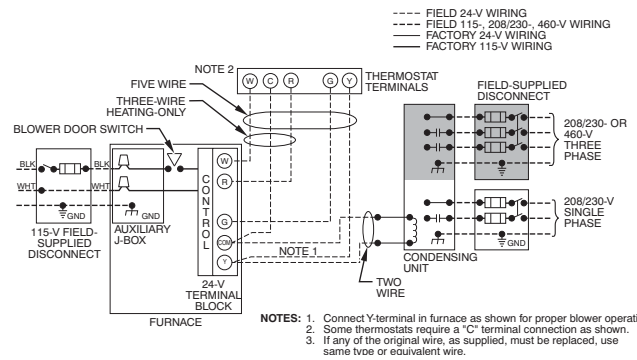

Fig. 33 – Typical Single-Stage Wiring Diagram
See Fig. 33 for field wiring diagram showing typical field 115-V wiring. Check all factory and field electrical connections for tightness.
6. Connect power cord power and neutral leads to furnace power leads as shown in Fig. 33.
5. Connect field power and neutral leads to furnace power leads. as shown in Fig. 33.
Make field 24-V connections at the 24-V terminal strip. See Fig. 38. Connect terminal Y as shown in Fig. 33 for proper cooling operation. Use only AWG No. 18, color-coded, copper thermostat wire.